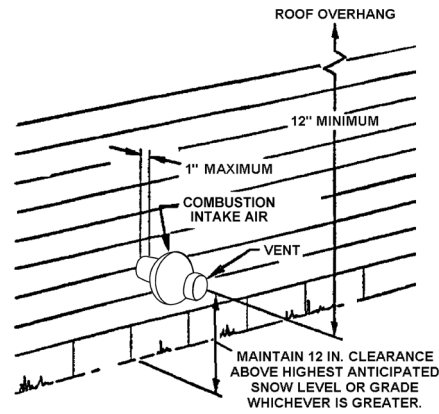
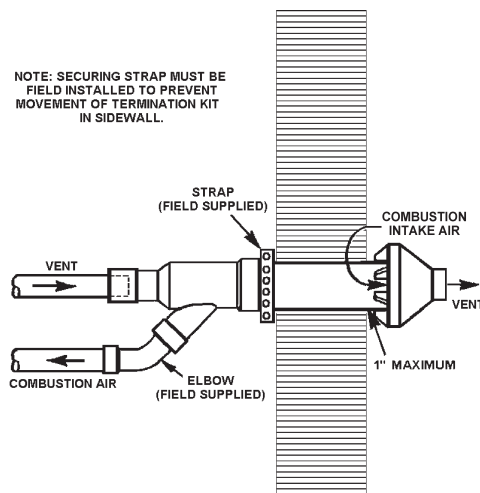

Figure: 28
Figure: 29
6. Secure assembly to structure as shown in "Figure: 28" using field-supplied metal strapping or equivalent support material.
NOTE: Ensure termination location clearance dimensions are as shown in the diagrams found in "Figure: 28" and Figure 29. When extending the length of the 4" pipe, the added length beyond 21-1/8" must be deducted from the maximum equivalent feet of vent pipe.
7. Cement heater combustion-air and vent pipes to concentric vent termination assembly. See Figure 29 for proper pipe attachment.